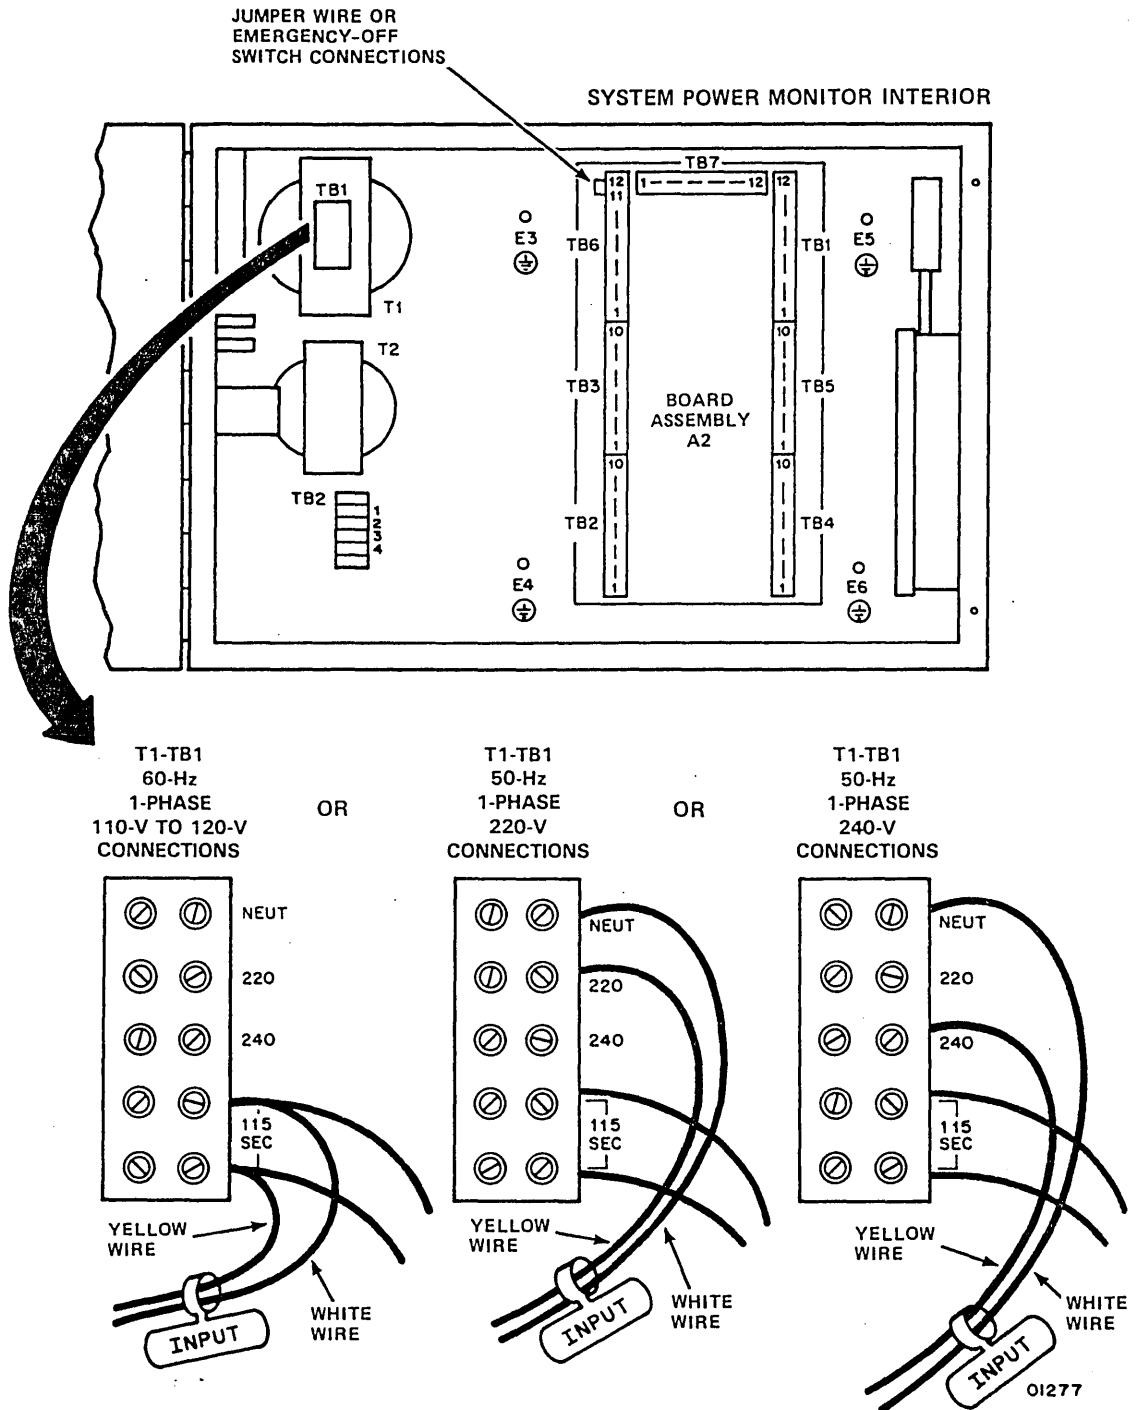

Figure 2-5. SPM Transformer T1 Connections
- ___ 7. Verify that a jumper wire connects board assembly A2-TB6-11 to A2-TB6-12 in SPM (figure 2-5). If a room emergency-off switch is part of the installation, jumper wire must be removed and room emergency-off switch must connect to A2-TB6-11 and A2-TB6-12.